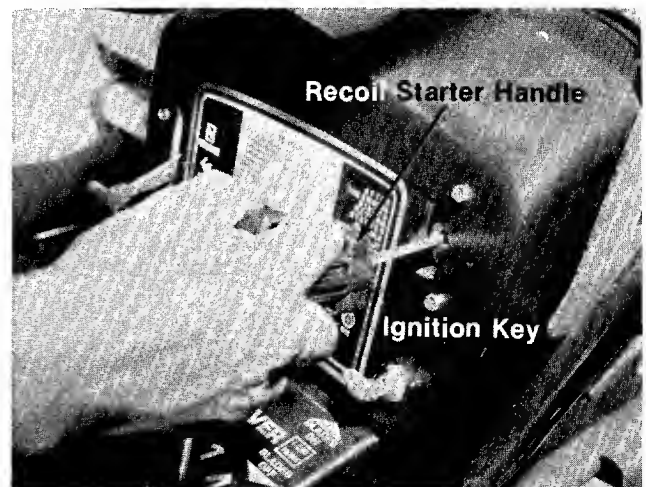

FIGURE 13.
Recoil Model. The key must be turned to the "ON" position before you pull the recoil handle to start the engine. Turn the key to the left to the "OFF" position to stop the engine. Remove the key when the unit is not in use. See figure 13.
The recoil starter handle is located on the right side of the dashboard. The recoil starter handle can either be pulled while seated on the rider or pulled while standing behind the rider. The ignition key must be on before the engine will start. After the engine starts, the recoil starter handle must be returned and locked into the dashboard before the blade or clutch are engaged. The engine will stop if these instructions are not followed. See figure 13.
7. a. **Recoil Model.** Turn the ignition key to the "ON" position. Twist the recoil starter handle until it is free and pull it with a quick steady motion. After the engine starts, return the recoil starter handle and twist it until it locks. See figure 13.